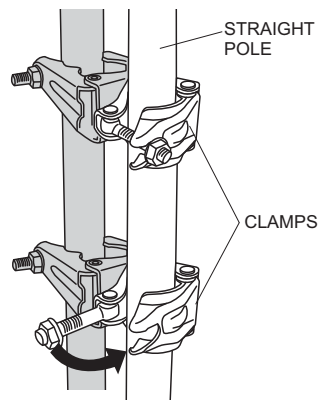

Figure 13. Straight Pole Attachment
4. Attach the straight pole to the clamps. Tighten locknuts on both clamps. See Figure 13.